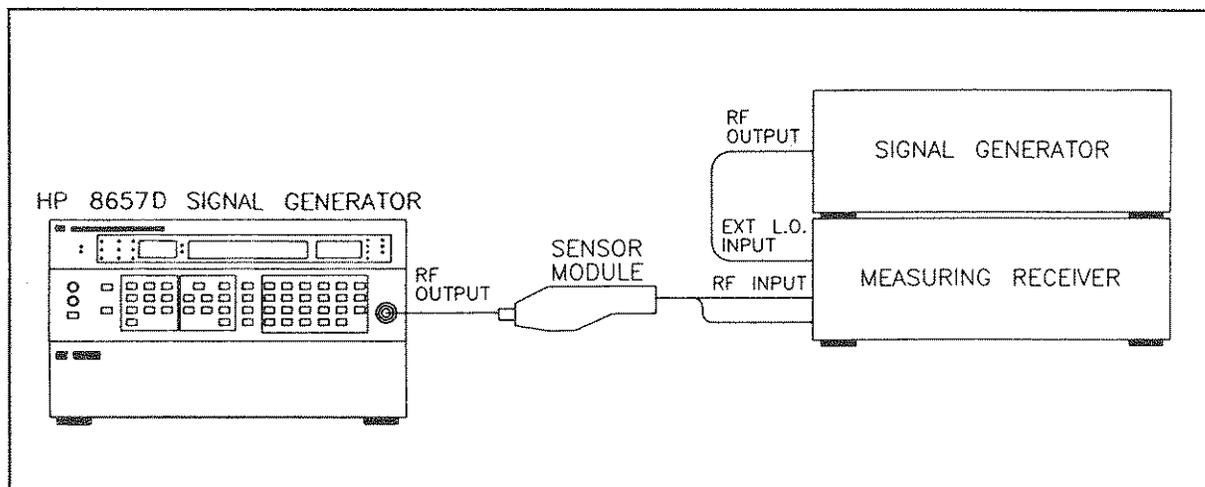

Figure 4-4a. Optional Residual Test Setup
- 12a. Connect the test equipment as shown in Figure 4-4a.